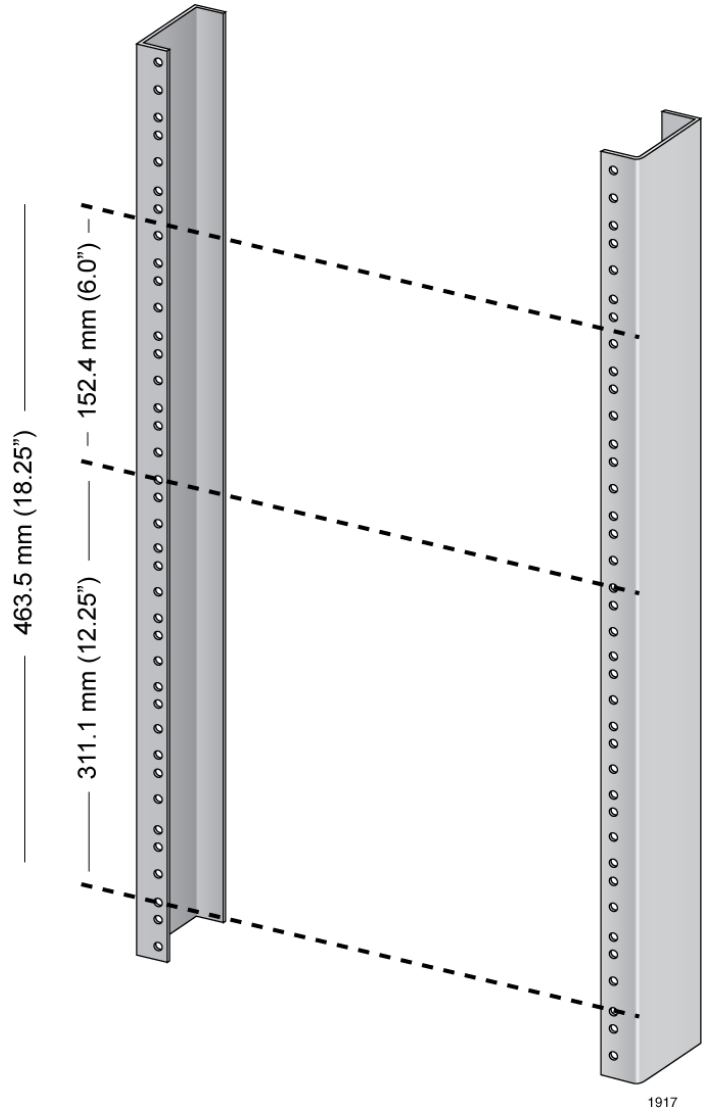

Figure 31. Reserving Vertical Rack Space
1. Reserve 311.1 mm (12.25") of vertical rack space for the installation of the AT-SBx8112 Chassis, as shown in Figure 31 on page 94.